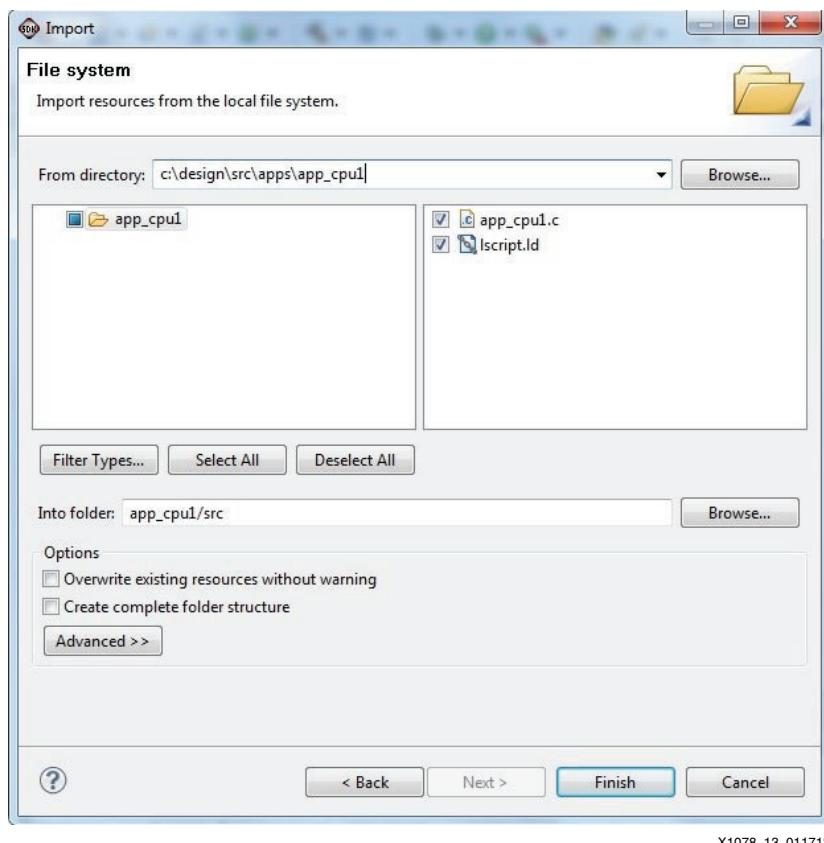

Figure 13: CPU1 Select Files to Import
- m. In the left window pane, select the **app_cpu1** folder but do not add a checkmark. In the right window pane, select all files (Figure 13).